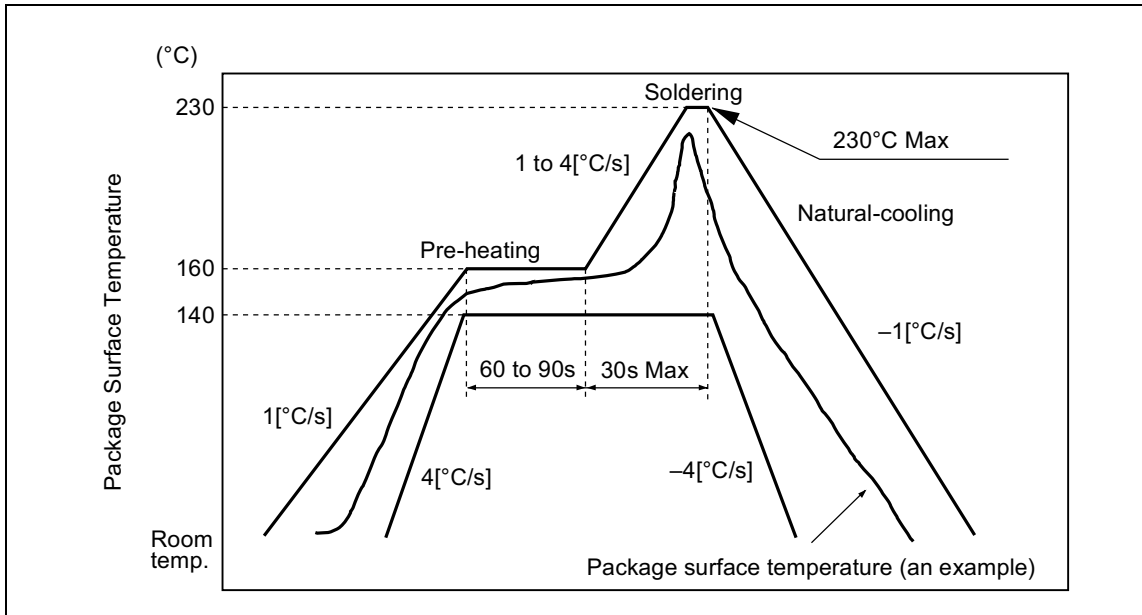

Figure 2
- Soldering temperature and time for I.R. Reflow should be the reflow profile shown in figure 2.